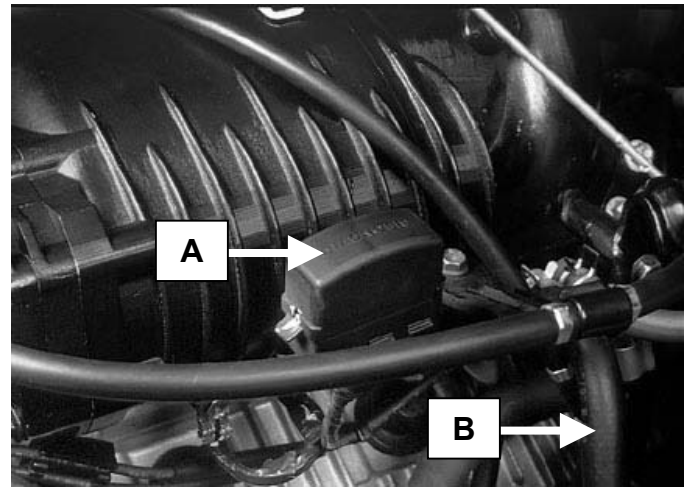

Figure 23
12. Replace the diagnostic plug bracket, plug and the ground connector from the driver's side of the supercharger (Arrow A, Figure 23).
13. Replace the fuel return line bracket to the driver's side of the manifold (Arrow B, Figure 23).